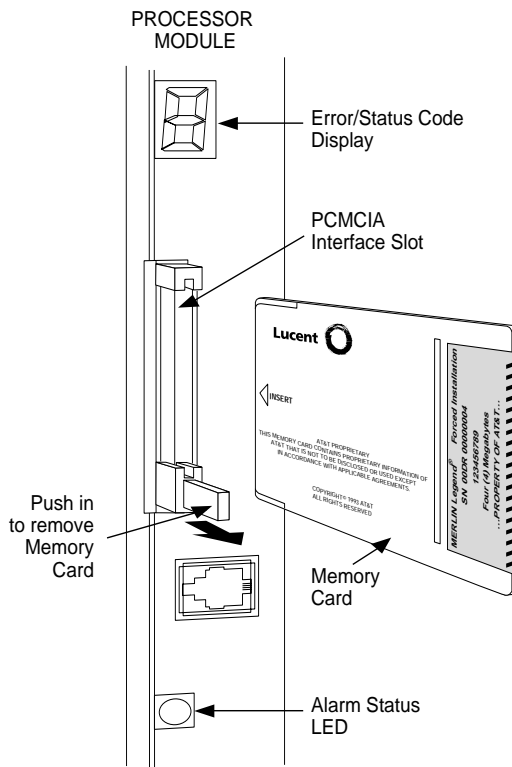

Figure 3-5. Inserting the Memory Card
To insert the card, hold the card with the Lucent logo facing up and the arrow pointing toward the slot. See Figure 3-5 for the proper way to insert the memory card into the slot on the processor module.
1. Insert the memory card into the PCMCIA interface slot on the processor module.	See Figure 3-5, “Inserting the Memory Card.”